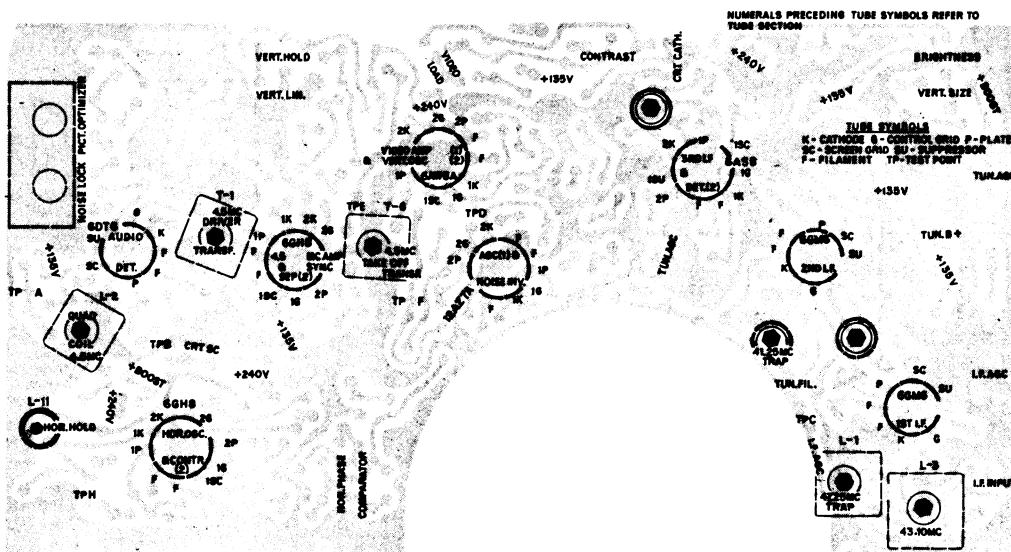

FIG. 3 - ETCHED PRINTED CIRCUIT BOARD (BOTTOM VIEW).
8. Disconnect generator output leads from grid of the first I-F amplifier and couple them to the mixer tube (V-14) of the VHF tuner, using the signal injection shim described below. If this is impractical, connect the generator output leads to the I-F mixer point on the tuner, using the coupling network shown in Fig. 3.